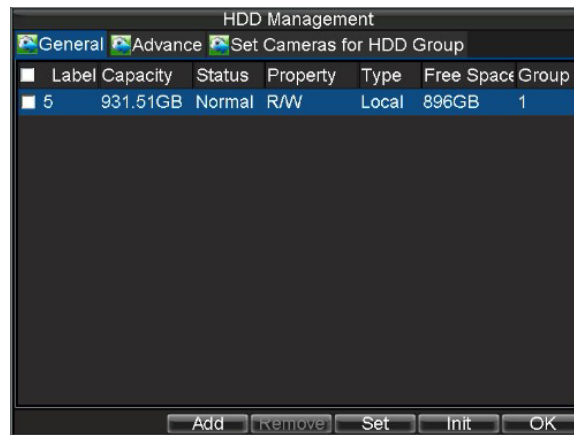

Figure 1. HDD Management Menu
1. Click Menu > HDD to enter the HDD Management menu, shown in Figure 1.